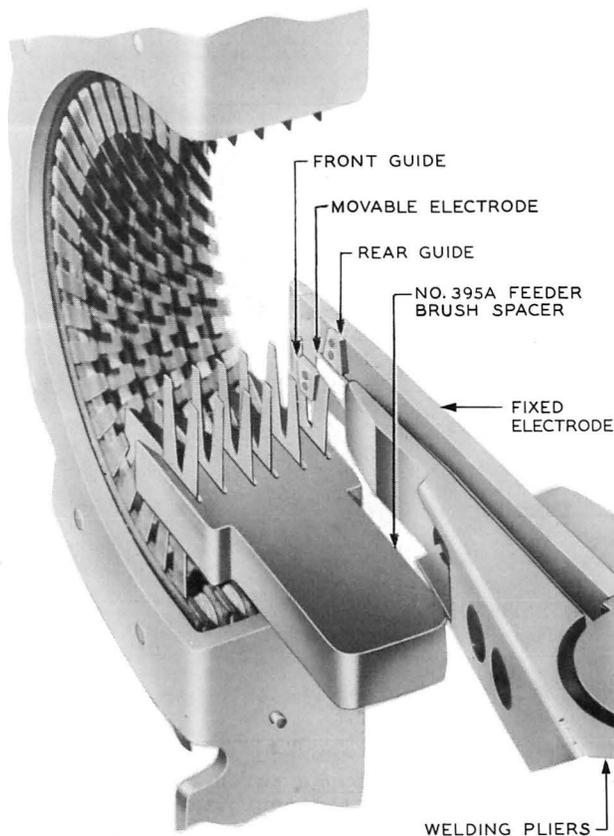

Fig. 5 - Welding Contact on Front Feeder Brush Prong Using No. 577A or 577B Welding Pliers
4.11 After completing the welding of contacts on the rear prongs as covered in 4.07 through 4.10, weld contacts on all of the front prongs. In this case, start at the extreme right feeder brush and work from right to left. Hold the welding pliers so that the fixed electrode is above and just to the right of the extreme right feeder brush. Keeping the pliers horizontal, slightly open the jaws and lower the pliers so that the front guide on the fixed electrode rests in the crotch of the feeder brush as shown in Fig. 5. Take care not to dislodge the contact and make sure that the guide is fully seated in the crotch of the feeder brush.